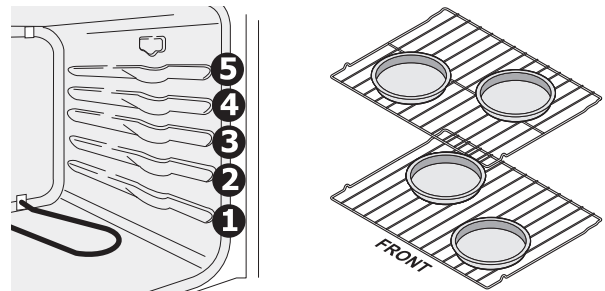

Figure 3: Rack positions (L) and pan spacing (R)
- When baking cakes using 2 racks, place bakeware on oven rack positions 2 and 4 and place the cake pans as shown. (See Figure 3)